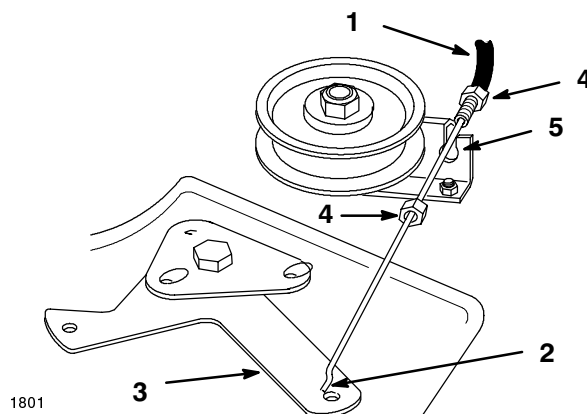

Figure 40
6. Unhook the blade control (PTO) cable Z end from the idler arm on the mower (Fig. 40).
7. Remove rubber wiper and jam nut from blade control (PTO) at mounting bracket. Slide the cable from the bracket and re-install jam nut for safekeeping (Fig. 40).